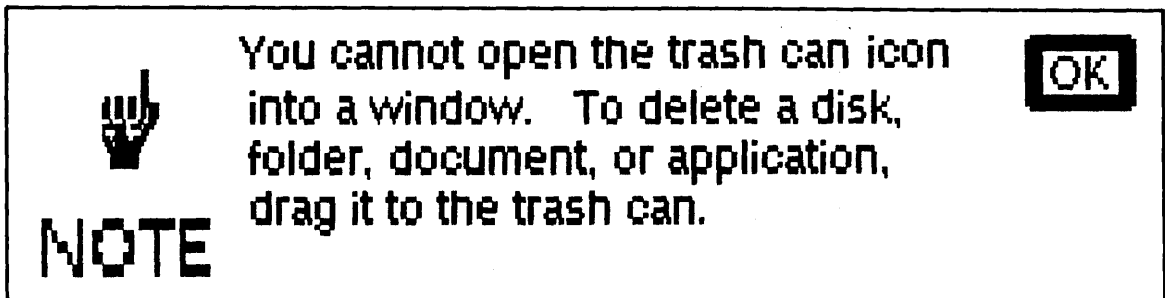

Fig. 1-4. A dialog appears when you double-click on the Trash icon.
- Double-click on the trash can icon (incidentally, you have now received your first warning dialog) (Fig. 1-4).